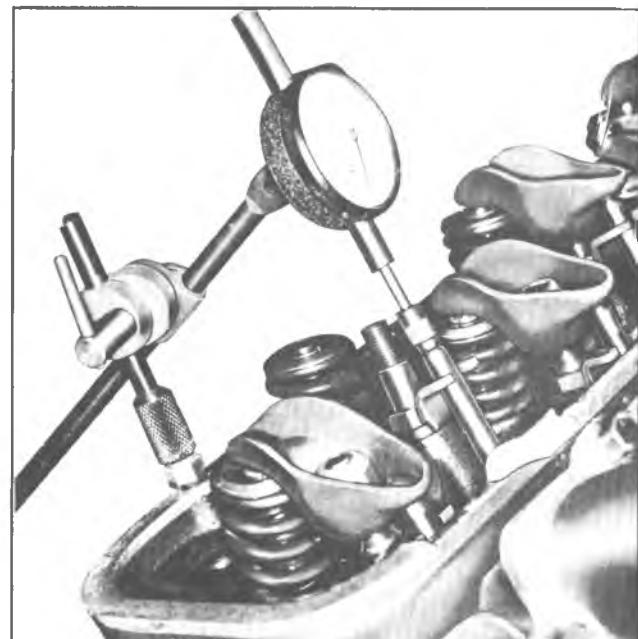

Fig. 28V—Measuring Camshaft Lobe Lift
2. Position indicator with ball socket adapter (Tool J-8520) on push rod (fig. 28V).